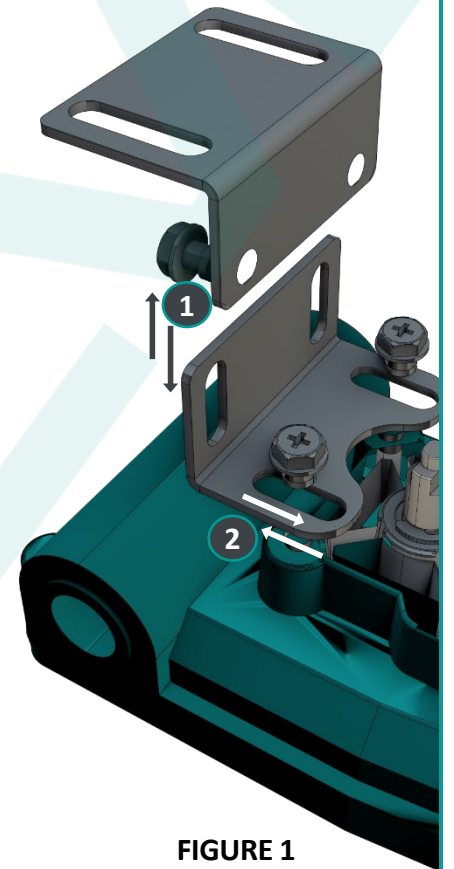

FIGURE 1
2. We can adapt the desired actuator using the movements indicated by numbered sections 1 and 2 in the Figure 1